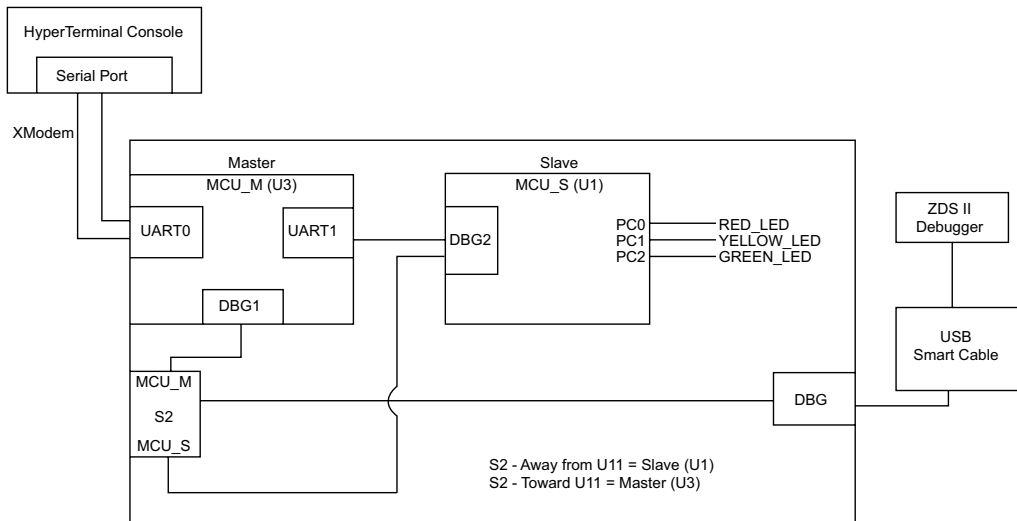

Figure 2. F1680 Development Board
1. On the Z8 Encore! XP Dual F1680 board, set the S2 switch toward U11 (Master). In this position, the board uses the Master MCU U3 as displayed in Figure 2.